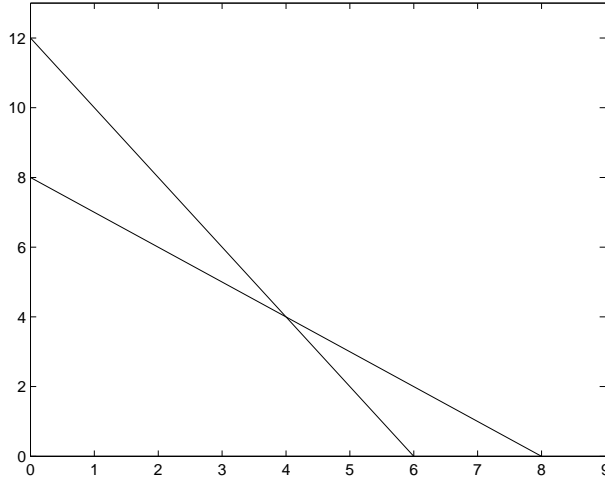

Figure 3 Feasible area.
- b. The optimal value is always in one of the corners of the feasible area (see figure 3), i.e. $v_0 = \begin{pmatrix} 0 \\ 0 \end{pmatrix}$, $v_1 = \begin{pmatrix} 0 \\ 6 \end{pmatrix}$, $v_2 = \begin{pmatrix} 8 \\ 0 \end{pmatrix}$, $v_3 = \begin{pmatrix} 0.75 & 1.5 \\ 1 & 1 \end{pmatrix}^{-1} \begin{pmatrix} 9 \\ 8 \end{pmatrix} = \begin{pmatrix} 4 \\ 4 \end{pmatrix}$.